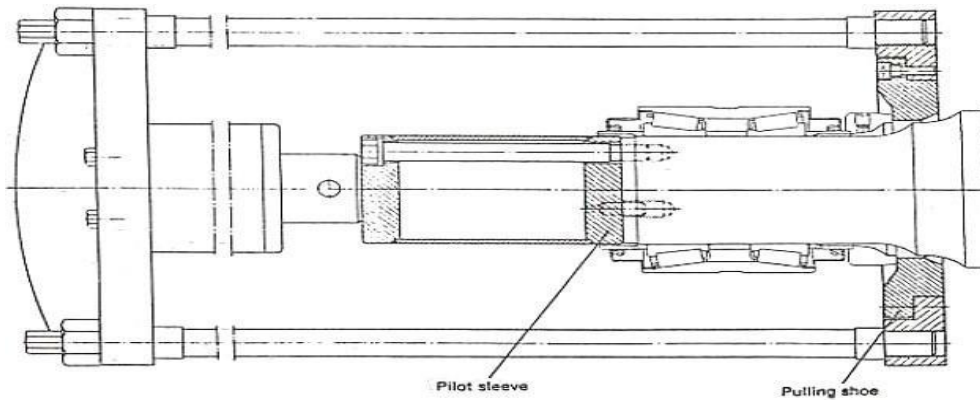

Fig. 19
8.2.3 Apply pulling shoe behind the backing ring. Hold it in position until the pressure has been applied. Go on increasing the pressure to pull the bearing off the axle end. **The pressure may exceed 5 tons.** A general arrangement for removal of bearing is shown in **Fig. 19.**